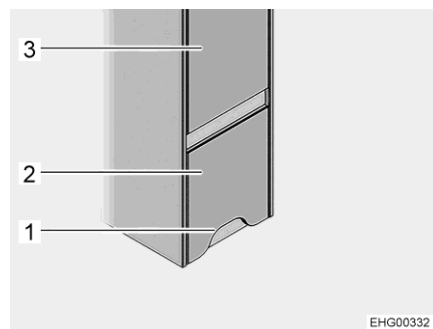
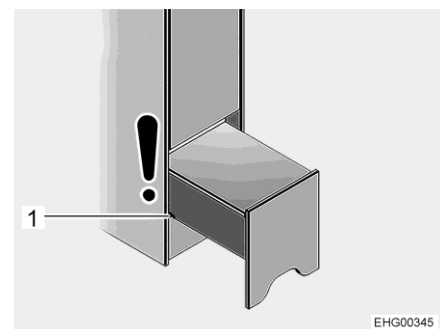

Fig. 93 Access assistance (closed)
Fig. 94 Access assistance (night position)
Position The access assistance has been installed on the right side of vehicle, underneath the wardrobe (Fig. 93,3) in front of the rear bed.
- ▷ The toilet compartment door is opposite to the access assistance. As long as the access assistance has only been pulled out partially ("night position", see Fig. 94), it is still possible to open the toilet door. If the access assistance has been entirely pulled out to obtain access to the storage compartment, it is no longer possible to fully open the toilet compartment door.
- Grab the access assistance (Fig. 93,2) by the cut-out (Fig. 93,1), lift it slightly and pull it out up to the first groove (Fig. 94,1) (night position).